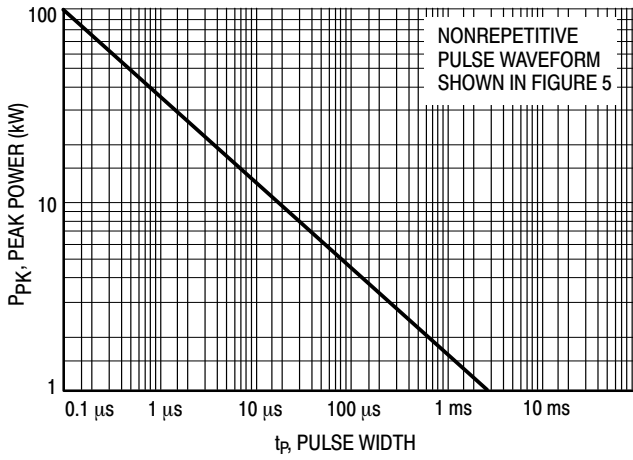
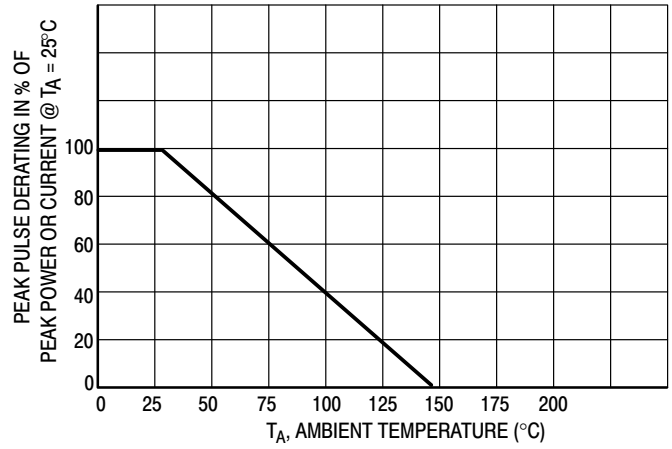
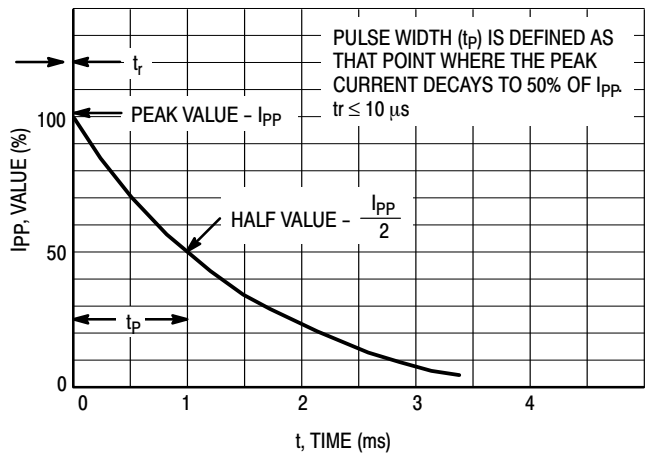
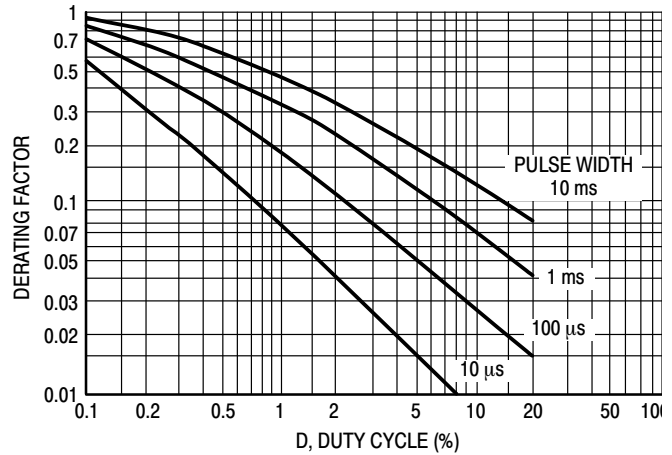

Figure 1. Pulse Rating Curve
Figure 2. Pulse Derating Curve
Figure 5. Pulse Waveform
Figure 7. Typical Derating Factor for Duty Cycle
1. Nonrepetitive current pulse per Figure 5 and derated above $T_A = 25^\circ\text{C}$ per Figure 2.
7. Surge current waveform per Figure 5 and derate per Figures 1 and 2.
The data of Figure 1 applies for non-repetitive conditions and at a lead temperature of 25°C. If the duty cycle increases, the peak power must be reduced as indicated by the curves of Figure 7. Average power must be derated as the lead or ambient temperature rises above 25°C. The average power derating curve normally given on data sheets may be normalized and used for this purpose.
At first glance the derating curves of Figure 7 appear to be in error as the 10 ms pulse has a higher derating factor than the 10 μs pulse. However, when the derating factor for a given pulse of Figure 7 is multiplied by the peak power value of Figure 1 for the same pulse, the results follow the expected trend.